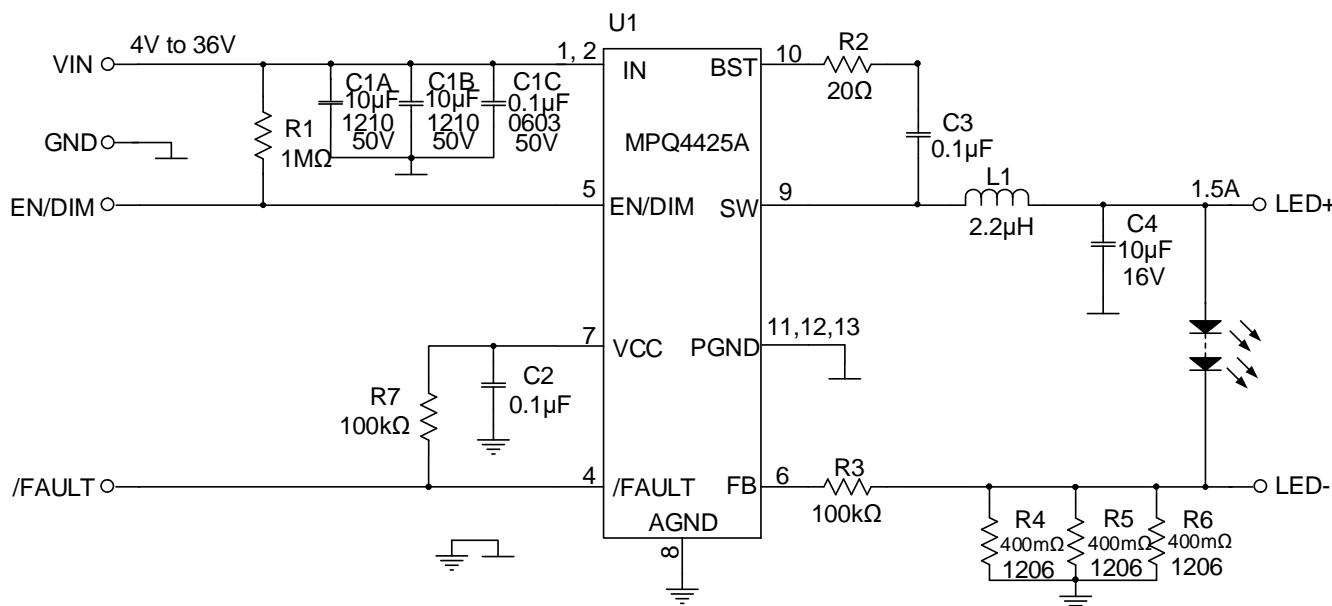

Figure 8:  $I_o = 1.5A$  Application Circuit
6) The recommended layout is based on Figure 8.